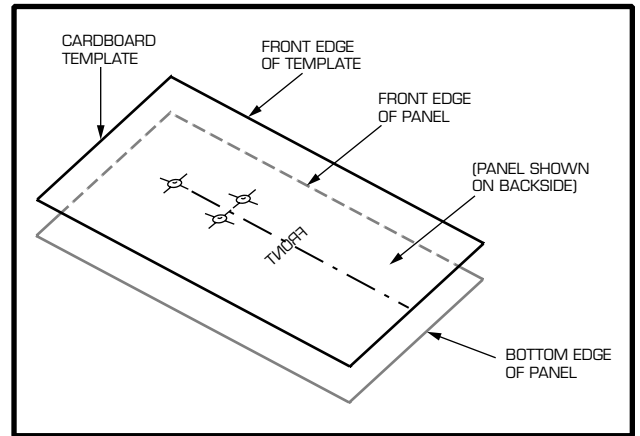

FIG. 1
2. Cut a template from the shipping carton the width & length of the side panel, mark the template "front". See Fig. 1.
7. Place the side wall on the floor with the grooves facing toward the floor and place front of the template on top (facing down). See Fig. 1 Make sure the front of the template is lined up with the front edge of the panel, and the bottom corresponds to the top of the shower base. Line up the front and bottom edges and mark the hole centers on the shower wall with a grease pencil.